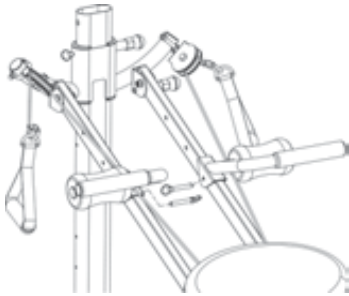

Fig. 2
3. Insert the 2 Short Hitch Pins through the holes on the Wing Attachment brackets and the holes on the rails, as shown in Fig. 2.